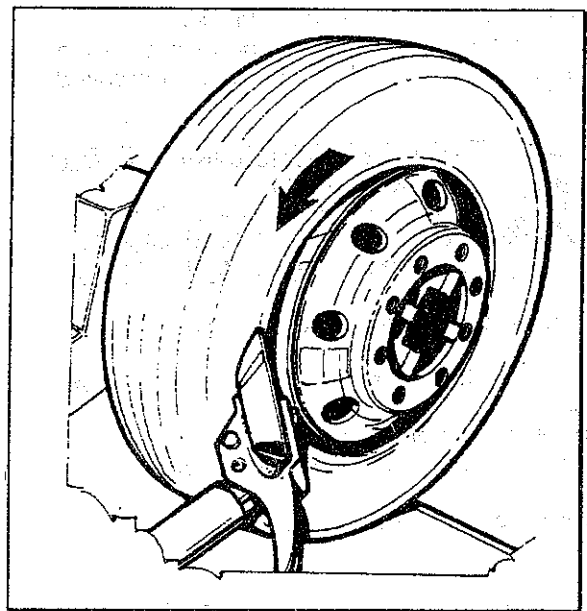
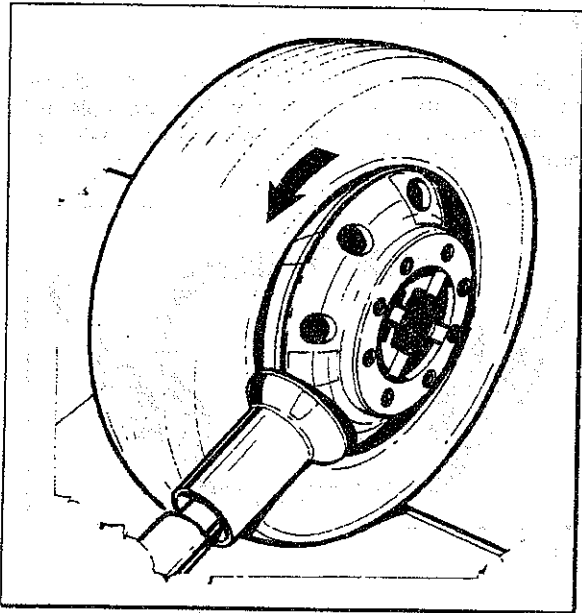

Fig.20
Fig.21
2. Position the bead breaker disc or tubeless roller (option) as shown in Fig.20, Fig.21.